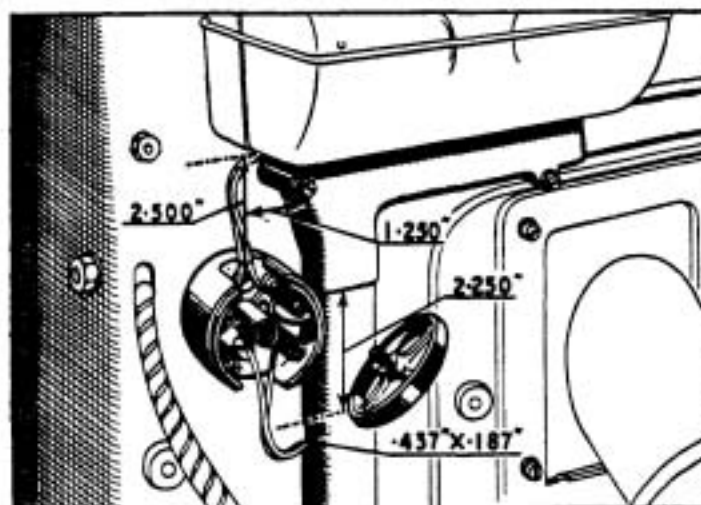

FIG.3. DRILLING AND FIXING - JUNCTION BOX.
1. Mark off and drill two 0.191" dia., i.e. 2 BA clearance, holes through the dash for the junction box retaining screws as shown in Fig.3.